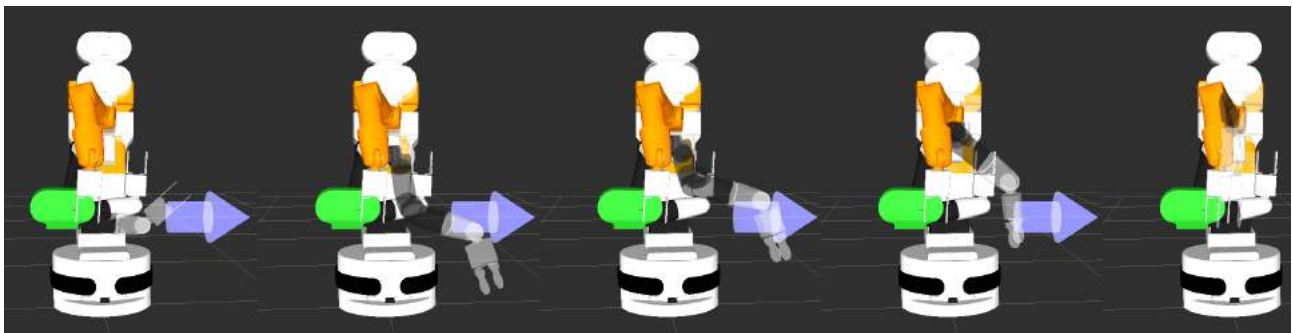

Figure 95: Example of plan found with the object in the scene.
4. (Optional) To execute such a motion, go the “*Context*” tab and click “*Publish current scene*”. This is step necessary so that the planning environment in the GUI will be moved to the one actually used by *Movel!* for planning. Go to the “*Planning*” tab again, and now move the arm to a position. Since this setup can be a very complex one for the planner, it might fail at the first attempt, keep planning until there is a successful plan. A successful plan for the current example is shown in figure 95.